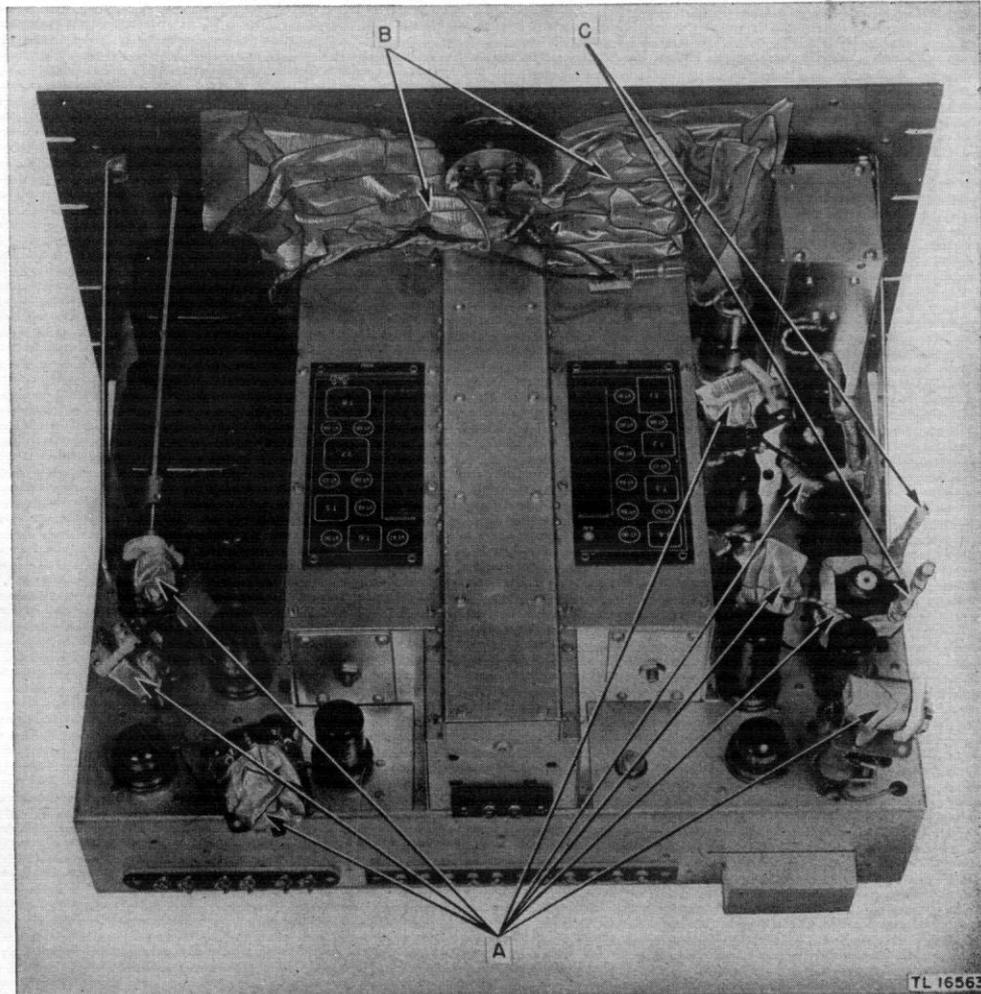

Figure 20. Radio Receiver BC-1004-C, top view of chassis, showing masking.
(figs. 20 and 21)
- (1) Eight capacitors on transformers T2, T3, T4, T5, and T6 (A, fig. 20).
- (2) Drive gears and tuning mechanism (B, fig. 20).
- (3) Supporting shafts on coil-capacitor assemblies (C, fig. 20).